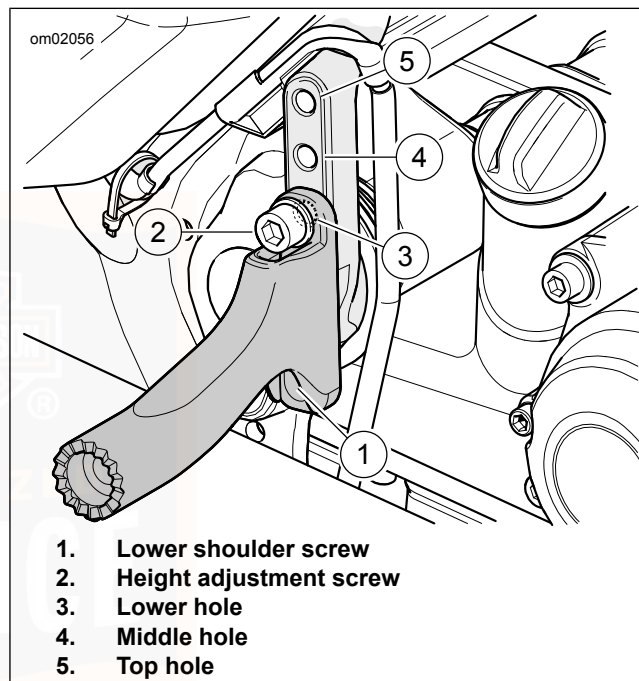

Figure 44. Footboard Height Adjustment (rotating arm and footboard removed)
See Figure 44. The lower shoulder screw (1) is not normally removed. The mounting arm slides up and down with the lower shoulder screw in place. If the lower shoulder screw is removed, install and tighten to 48–72 **in-lbs** (5.4–8.1 N·m).
1. Remove the height adjustment screw (2).